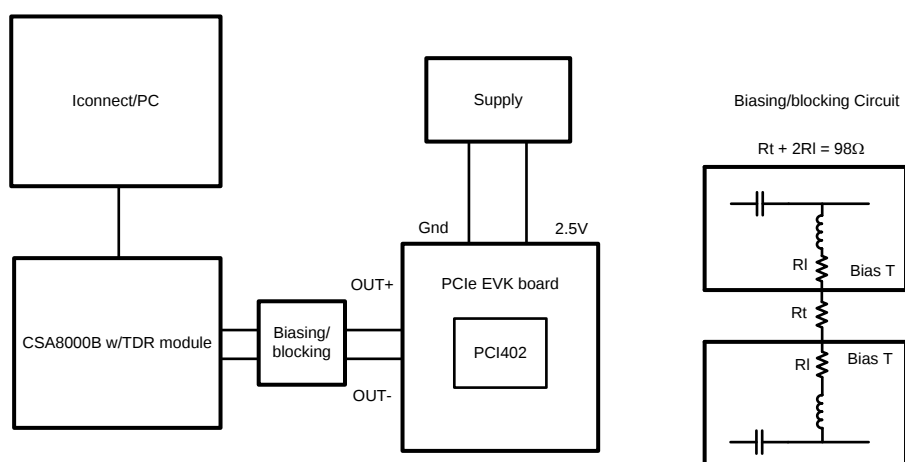

Figure 6. Input and Output Return Loss Setup
- (1) Typical values represent most likely parametric norms at V_{DD} = 2.5V, T_A = 25°C., and at the Recommended Operation Conditions at the time of product characterization and are not ensured.
- (2) The Electrical Characteristics tables list ensured specifications under the listed Recommended Operating Conditions except as otherwise modified or specified by the Electrical Characteristics Conditions and/or Notes. Typical specifications are estimations only and are not ensured.
- (3) Measured with DEM Select pins configured for 1000mV VOD, see De-emphasis table.
- (4) Input edge rate for LVC MOS/FLOAT inputs must be 50ns minimum from 10-90%.
- (5) Input Return Loss also uses the setup shown in Figure 6. The blocking / biasing circuit is replaced with a simple AC coupling capacitor for each input to emulate a typical PCIe application.
- (6) Measured at package pins of receiver. Less than 40mV is IDLE, greater than 175mV is ACTIVE. SD_{TH} pin connected with resistor to GND overrides this default setting.